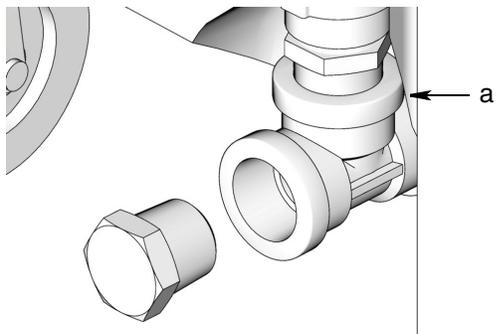

FIG. 1
1. Open drain valve (Hurricane Dispense Cart) or remove drain plug (Oil King or Coolant King Dispense Cart) and drain waste fluid. Properly dispose of the used oil or antifreeze (FIG. 1).